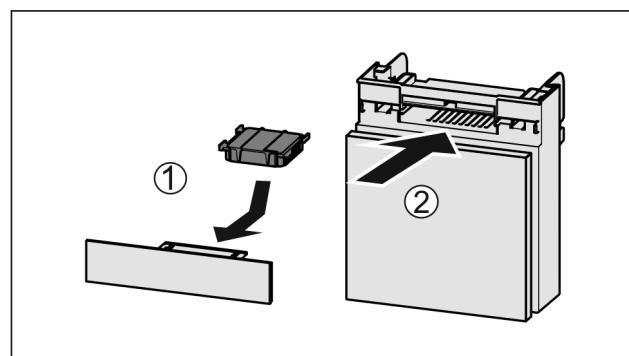

Fig. 77
- ▶ Insert the carbon filter as shown in the diagram Fig. 77 (1).
- Push the compartment in *Fig. 77 (2)*.